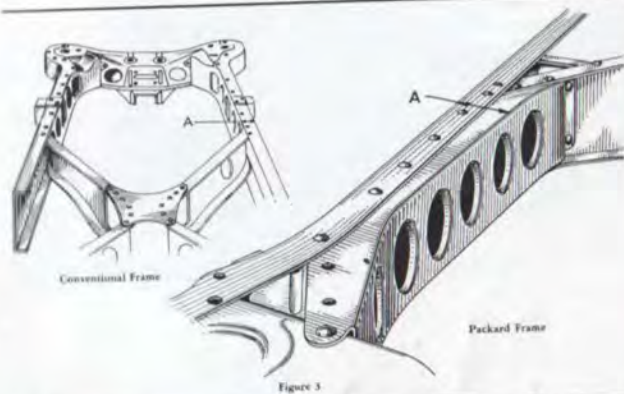

Figure 3
deep, which is welded and riveted to the side members and provides the necessary rigid foundation for the motor and Safe-T-fleX front wheel suspension assembly. Extending backward from the front cross member along each side rail to the junction point where the front arm of the X-member joins it, is a welded and riveted box-section side rail reinforcement. It provides a much wider and more effective frame section at the point of greatest stress (A) where the front of the body is attached to the frame and counteracts any crosswise twisting strains in the frame being transferred into the body (See Figure 3). Most cars do not provide this extra strength at all, while others use the cheaper method of welding the body to a less rigid frame which increases the amount of body strain and in time causes body squeaks and rattles.